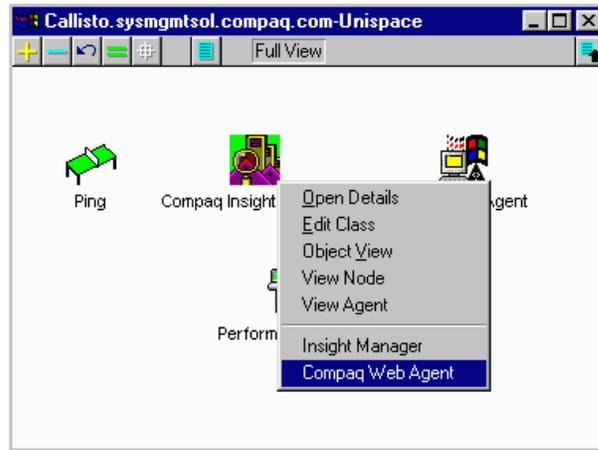

Figure 3-5. Compaq Management Agents showing launch command for Compaq Insight Manager Console and Web-enabled agents
- Launch of the browser to the Web-enabled Compaq Management Agents, as shown in Figure 3-5.